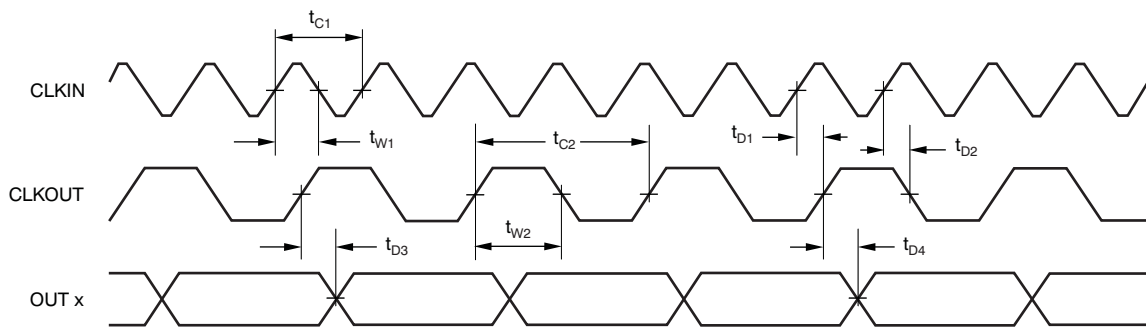

Figure 1. ADS1204 Timing Diagram
(1) Applicable for 5.0-V nominal supply:  $\text{BV}_{\text{DD}}(\text{min}) = 4.5\text{ V}$  and  $\text{BV}_{\text{DD}}(\text{max}) = 5.5\text{ V}$ . All input signals are specified with  $t_{\text{R}} = t_{\text{F}} = 5\text{ ns}$  (10% to 90% of  $\text{BV}_{\text{DD}}$ ) and timed from a voltage level of  $(V_{\text{IL}} + V_{\text{IH}}) / 2$ . See Figure 1.
(1) Applicable for 3.0V nominal supply:  $\text{BV}_{\text{DD}}(\text{min}) = 2.7\text{ V}$  and  $\text{BV}_{\text{DD}}(\text{max}) = 3.6\text{ V}$ . All input signals are specified with  $t_{\text{R}} = t_{\text{F}} = 5\text{ ns}$  (10% to 90% of  $\text{BV}_{\text{DD}}$ ) and timed from a voltage level of  $(V_{\text{IL}} + V_{\text{IH}}) / 2$ . See Figure 1.